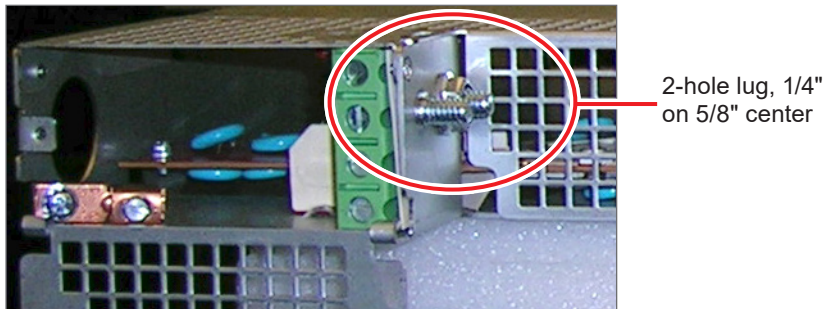

Figure 8 — Chassis Ground
2. Connect the shelf chassis ground (Figure 8) to the rack. On the rack, use thread-forming screws and star washers that remove any paint or non-conductive coatings and establish metal-to-metal contact to ensure a proper electrical bond.